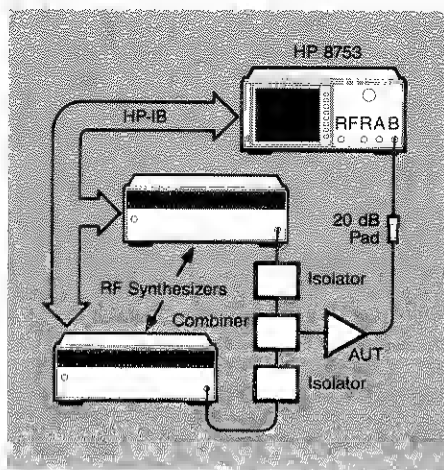

Figure 19. Two-tone third order intermodulation measurement setup.
The measurement setup is shown in Figure 19. The two synthesizers used were HP 8656Bs. Attenuators are used to ensure the individual fundamental power levels at the receiver input are below  $-20$  dBm.
1. Connect the instruments as shown in Figure 19. Connect the external frequency references together to synchronize the measurement frequencies. Preset the HP 8753B.